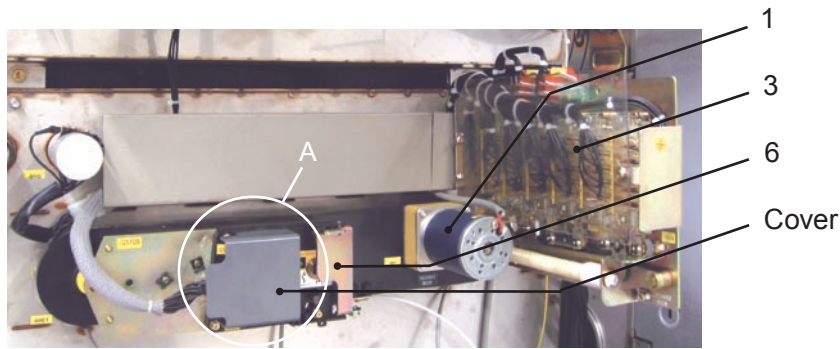
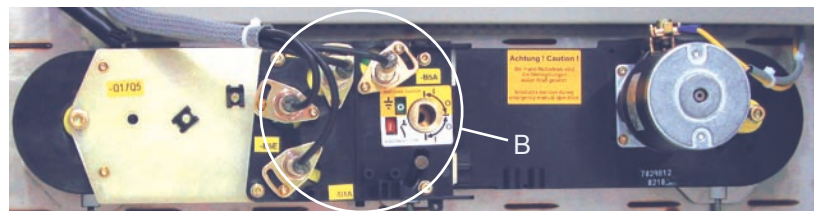

Fig. 6.2.4: Three position disconnecter mechanism with auxiliary switches (3) and mechanical access interlock for emergency manual operation (6)
Fig. 6.2.6: Three position disconnecter mechanism with sensors for switch position detection
The operating mechanism block for the three position disconnecter consists of the following functional groups (figs. 6.2.4 to 6.2.7):
Fig. 6.2.5: (Detail A in fig. 6.2.4 – without cover) Auxiliary switches for switch position detection (3) and mechanical access interlock (closed) for emergency manual operation (6)
Fig. 6.2.7: (Detail B in fig. 6.2.6) Sensors (2) for switch position detection (Optional with auxiliary switches (3 in fig. 6.2.4) and access interlock for emergency manual operation (6 in fig. 6.2.5))